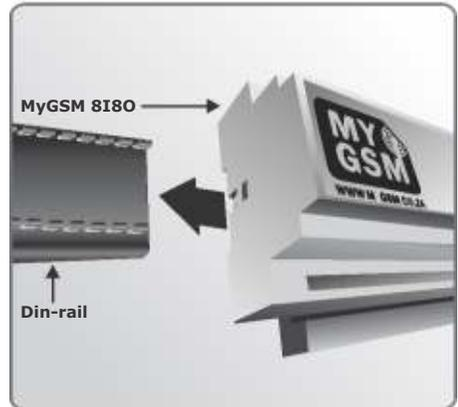

FIGURE 13.
8. Slide the **MyGSM 8180** module onto the DIN-rail in the distribution box where the module will be housed as shown in Figure 13.